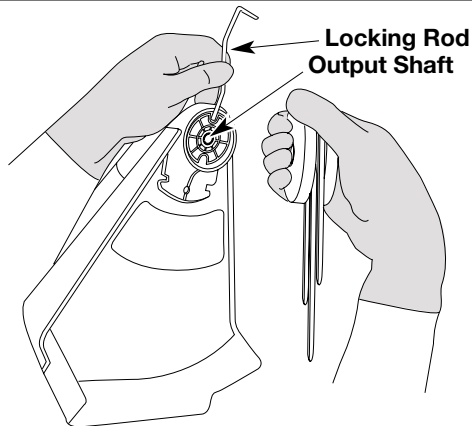

Fig. 12
- Grip the sides of the Flail Head with the Adaptor facing your palm and the Flail Head top facing the unit. Screw the Flail Head clockwise onto the shaft (Fig. 12) until the Flail Head is on securely. Do not over tighten.
- Align the blade driver hole with the locking rod slot and insert the locking rod into the blade driver hole, Fig. 12.